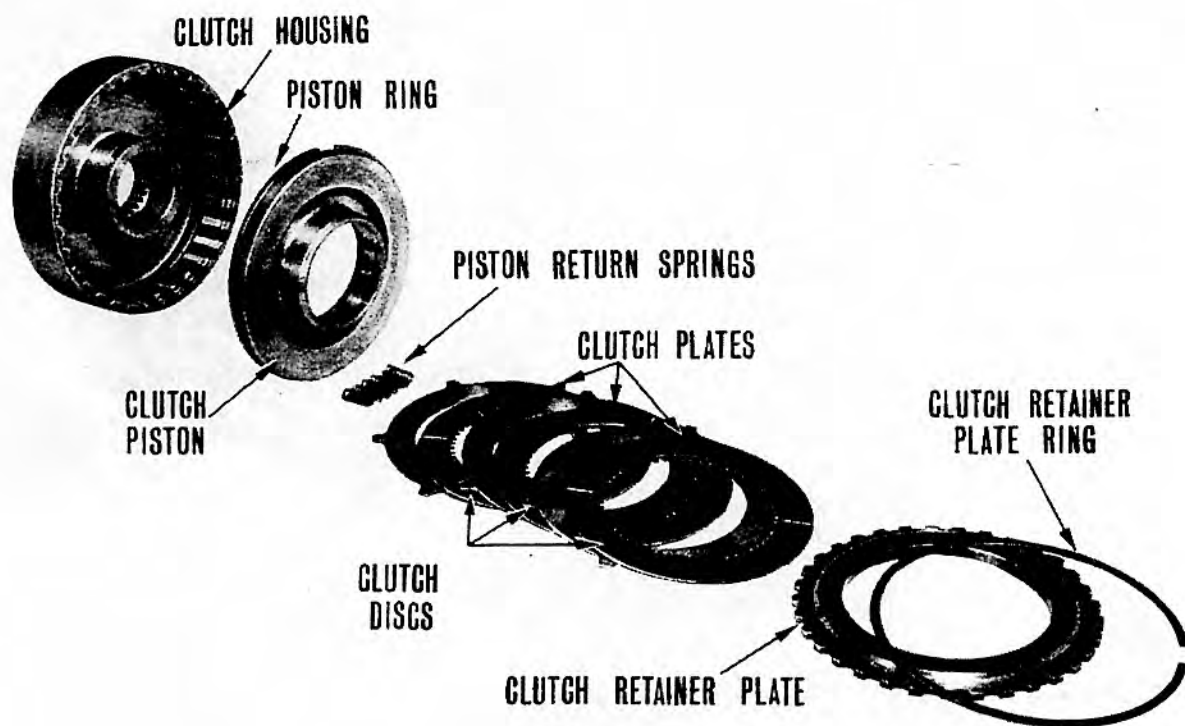

FIGURE 26. EXPLODED VIEW OF HYDRAULIC CLUTCH
5. Invert the clutch and tap it lightly on a wooden block. This will slide the piston out of the case. Figure 26 shows the clutch dismantled.